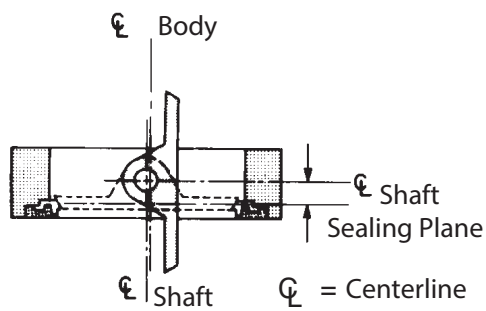

Figure 3.
One *Wafer-Sphere* valve design feature that is responsible for its superior performance is the valve's eccentric shaft design. As shown by **Figure 3**, the shaft is offset in two planes: (1) away from the valve disc center line; and (2) behind the disc sealing plane. The offset shaft design makes the disc lift completely off the seat as the valve starts to open, eliminating wear points at the top and bottom of the seat. Because the disc rotates in an ec-centric arc, it operates in one quadrant only.
4. Before installing the **closed** valve in the line, be sure that the actuator is attached so that a counterclockwise rotation, viewed from above, opens the valve (**See Figure 3**). Again, fully close the valve before in-stalling it in the line.